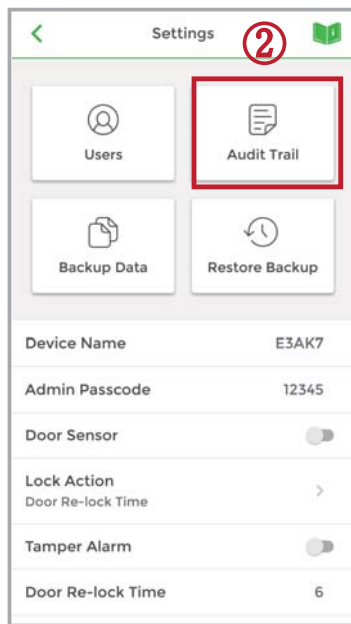
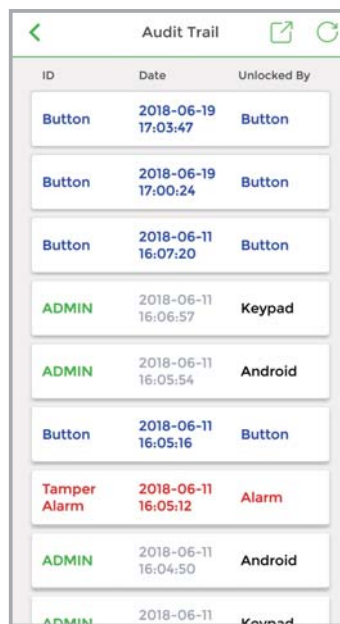

Figure 4
Figure 5
- (D) Scheduled : To assign repeatedly access on specific days and hours for a certain period of time. This setting is useful for house cleaners or constructors who need temporary access on regular basis. (See Figure 4 and 5 next page)
② Audit Trail : (See Figure 4 and Figure 5 next page)